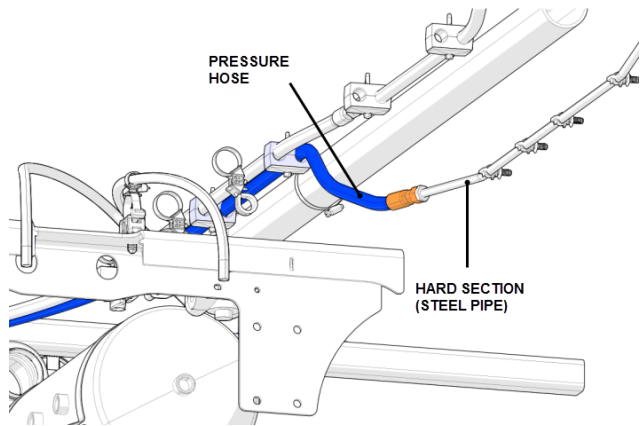

FIGURE 14
16. Locate the discharge hose (pressure) on curbside of the rear wheel well. It connects to a hard section (steel pipe) which is from the steering pump (fig.14).